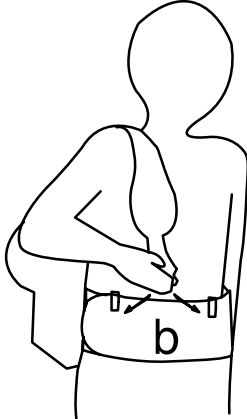

FIG. 12
9. To put the vacuum on, slide the monostrap up over your preferred shoulder. Fasten the belt by bringing the right flap (C) across the front, then bring the left flap (B) over on top of it. (Figure 12).